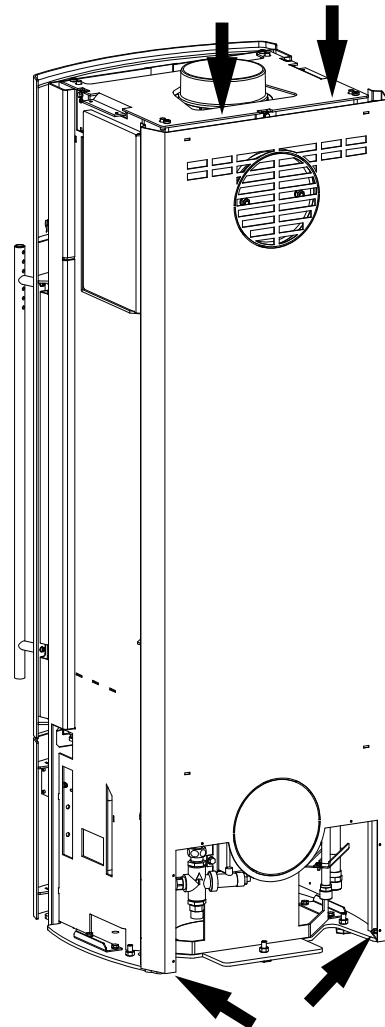

Fig. 2 Unscrew the back panel
- Unscrew the back panel (Fig. 2).